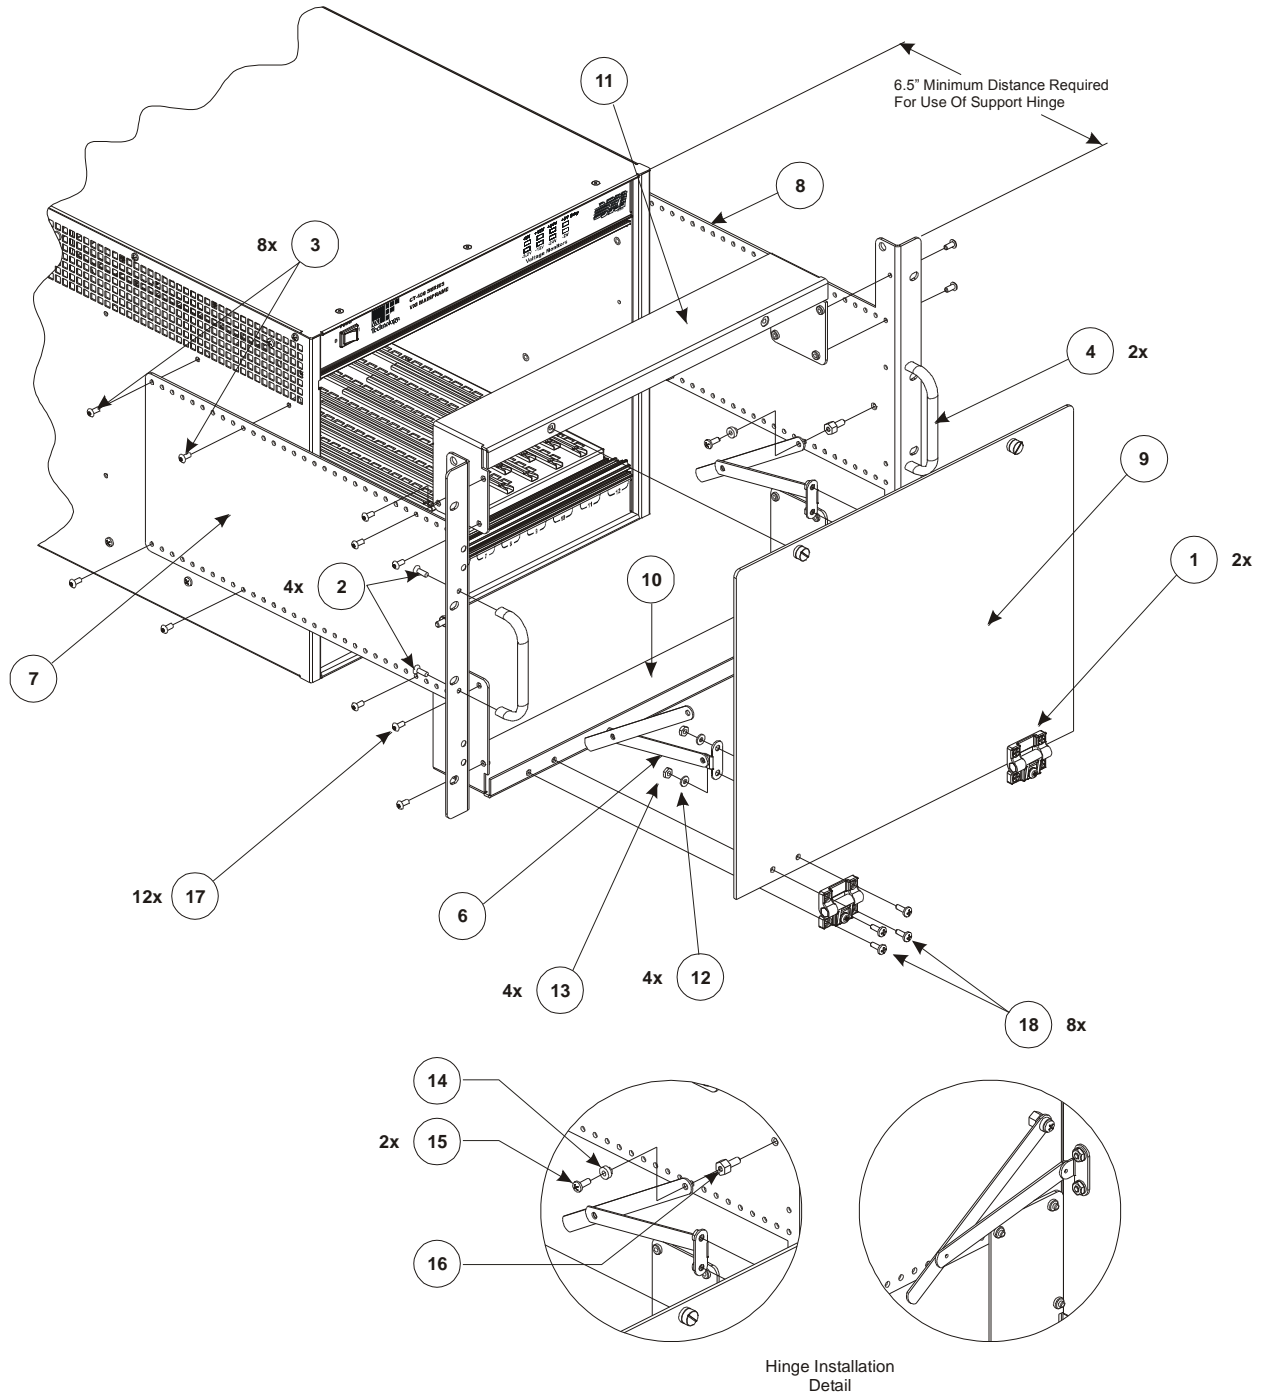

FIGURE 2-7: CUSTOMIZABLE FRONT DOOR INSTALLATION DIAGRAM
- 2) Locate the right and left side rack mount brackets. Install the rack mount brackets using eight 8-32 x 5/8" button head Torx screws. Refer to Figure 2-7 for guidance. In order for the custom panel to utilize the support hinges, the mainframe must be recessed by at least 6.5 inches (16.51 cm).
- 3) Locate the handles for the rack mount brackets. Use the 8-32 x 3/8" Phillips screws to install these handles as shown in Figure 2-7.
- 5) Attach the standoffs to the rack mount brackets as indicated in Figure 2-7 below.